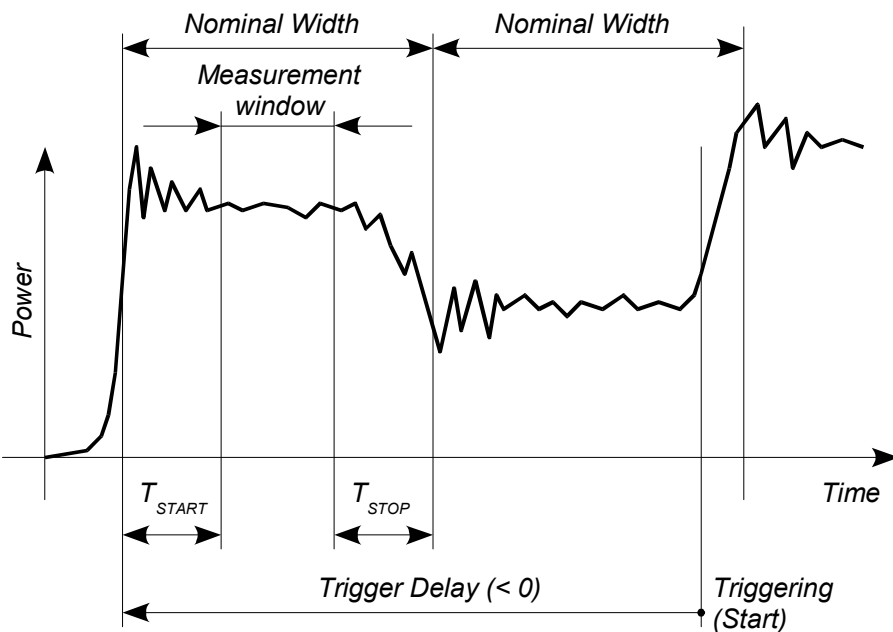

Fig. 6-5 Effect of *SENSe:TIMing:EXCLude:START* and *:STOP* in the *Timeslot Average* mode
*SENSe:TIMing:EXCLude:STARt* defines the exclusion time at the beginning of the measurement window in the *Burst Average* and *Timeslot Average* modes. It is indicated by  $T_{START}$  in Figs. Fig. 6-4 and Fig. 6-5.
*SENSe:TIMing:EXCLude:STOP* defines the exclusion time at the end of the measurement window in the *Burst Average* and *Timeslot Average* modes. It is indicated by  $T_{STOP}$  in Figs. Fig. 6-4 and Fig. 6-5.